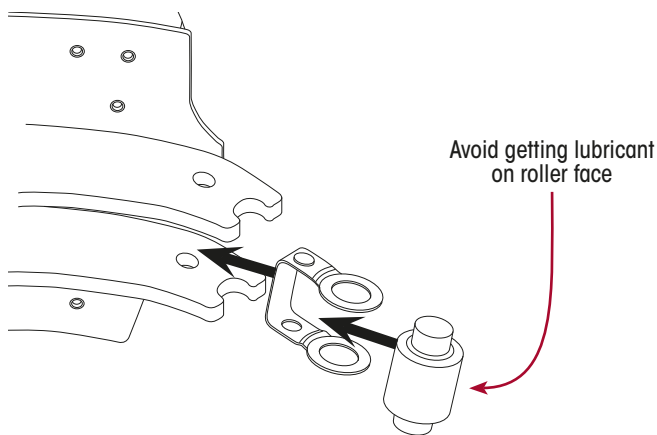

Figure 52: Brake Shoe Roller & Clip Installation
2. Lubricate roller ends with anti-seize compound, insert roller onto spring clip and install roller assembly into brake shoe. Refer Figure 52.